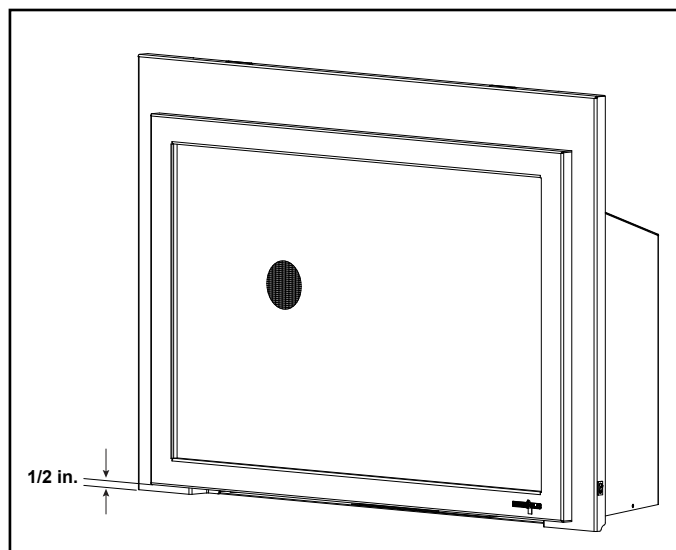

Figure 3.9 Minimum Required 1/2 in. Gap
***Note:** Location G is the appliance depth measurement, for installation depth reference Location E on Figure 3.9.
Minimum fireplace opening requirements for a standard 3/4 inch deep surround are shown in Figure 3.9. For smaller openings, a custom surround is available.